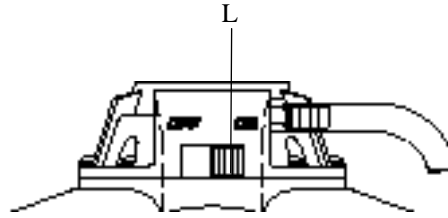

Fig. 12
- Place the by-pass lever in the *ON* position (**Fig. 12 - L**).